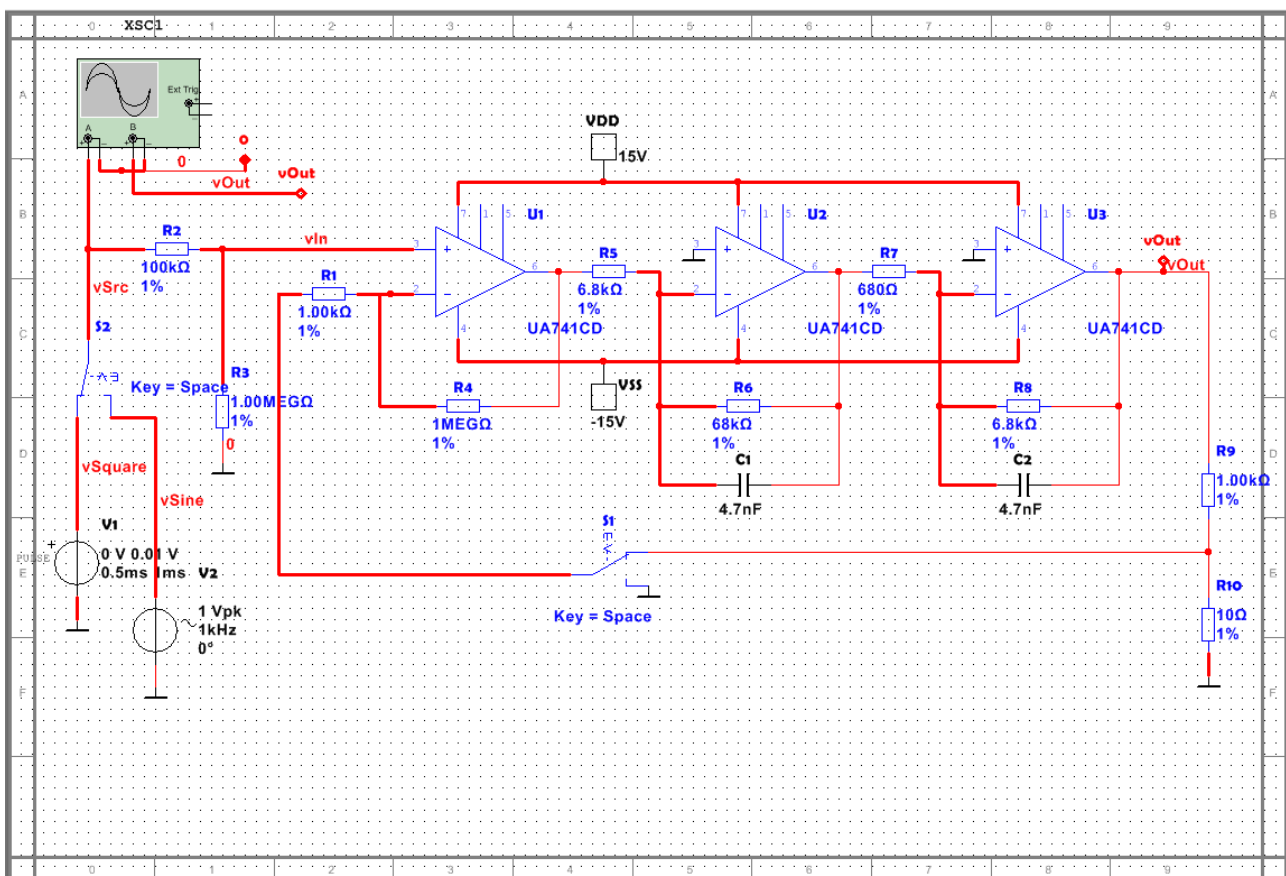

Figure 3.1: Three-stage amplifier chain. Notice that R1 should be 100 kOhm.
and reprinted in Figure 3.1 as it looks in the simulator.
- DC gain. What is the total DC gain, in open-loop configuration, of the amplifier in Figure 3.1?
Once you have a pretty good understanding, you will start to connect your amplifier, more or less as it is shown in Figure 3.1, on the board by placing all the components. Jumpers/switches are of course not there, supplies and signals are taken from the ELVIS+. The oscilloscope is also provided to you by the ELVIS+ board.
- AI1+ (row 3) should be connected to the output of the amplifier, vOut in Figure 3.1.
- AI0+ (row 1) should also be connected to the input of your amplifier, i.e., vSrc in Figure 3.1.